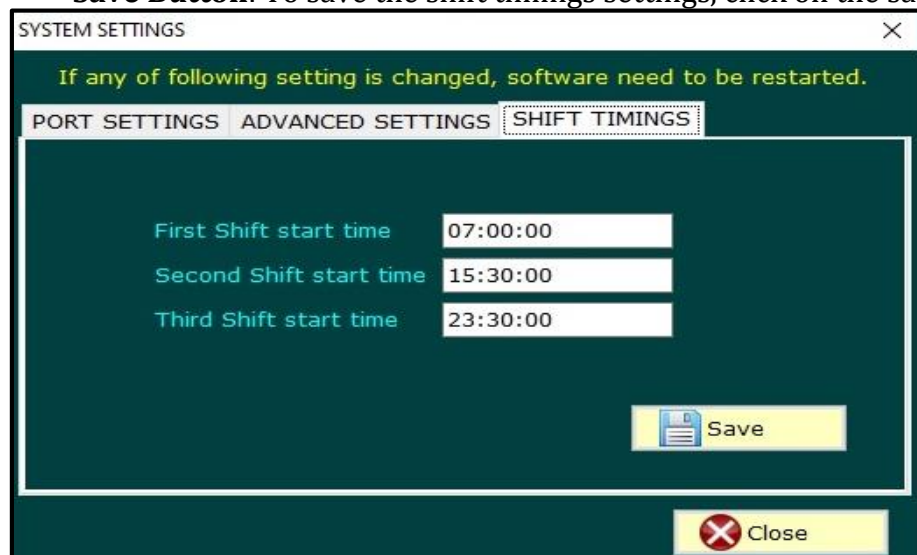

Figure 8
- Can set shift timing as shown in figure 8.